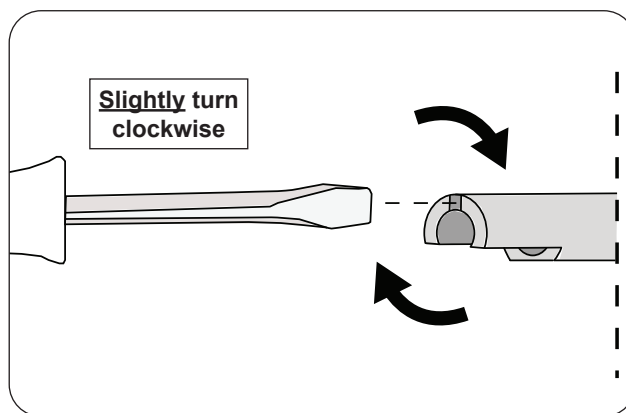

Fig. 50-2 Stem adjustment
2. Insert a flathead screwdriver into the split portion of the stem and GENTLY turn the screwdriver clockwise. Be cautious! Only a slight turn is needed as the stem is flexible. See Fig. 50-2.